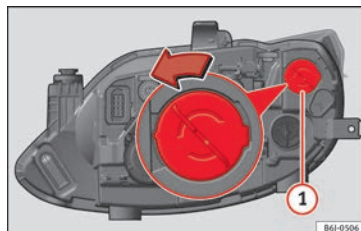
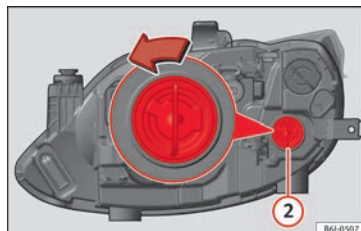

Fig. 92 Single headlight DRL light (day light).
Fig. 93 Single turn signal lamp.
- Turn the bulb holder » Fig. 92 ① or » Fig. 93 ② to the left and pull.